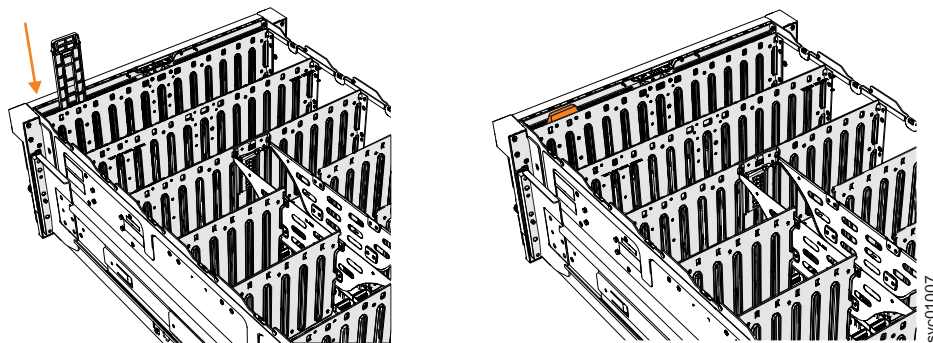

Figure 109. Installing the display panel assembly
2. Carefully align the display panel assembly in the slot at the front of the expansion enclosure, as shown in Figure 109 on page 128.